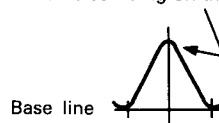

Fig. 13
4. Feed in a weak signal to No.3 pin of IC101 from the genescope. Adjust T101 for maximum gain and the waveform indicated in Fig. 13. If the center of the waveform cannot be lined up on the marker, adjust the right/left balance.